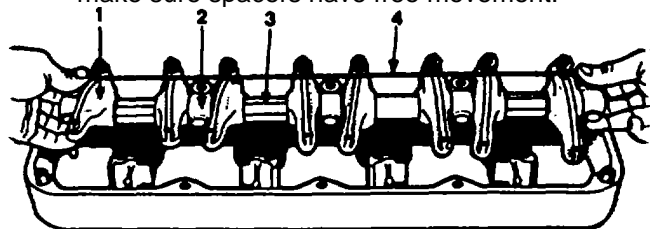

Figure 63. Method of Holding Rocker Arm Assembly Together for Installation
10. After rocker arm shaft has been completely assembled, a wire (Figure 63) can be used to hold assembly together for installation on cylinder head.